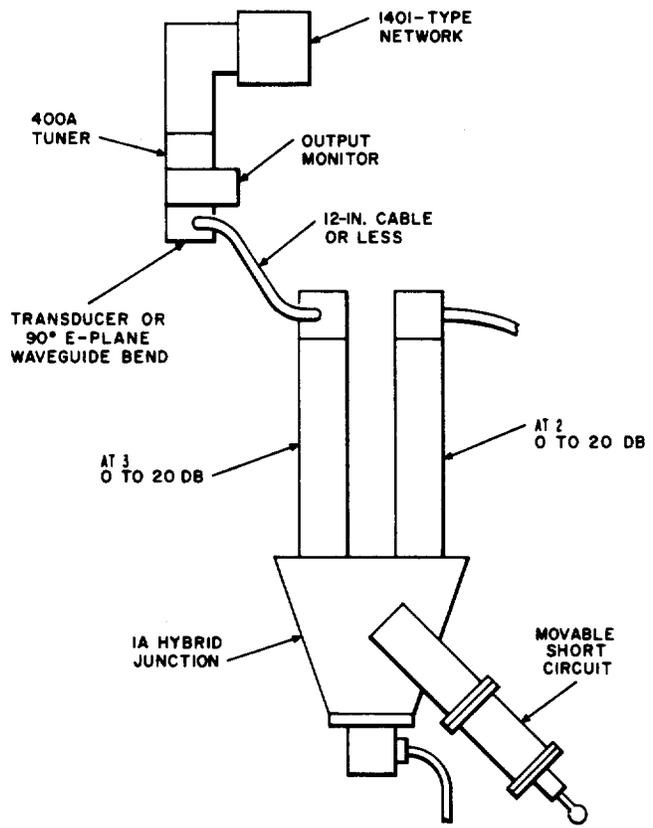

Fig. 3—Test Setup at Transmitter Waveguide
2.04 To measure a transmitting antenna and waveguide system, the transmitter amplifier first must be removed. Attenuator AT3 is then connected to the output monitor directional coupler. This cannot be done directly, so transducers must be used. Figure 3 shows a cable transducer assembly, but a 90-degree E-plane waveguide bend can be used instead. (Use a sling to prevent any damage to the equipment.) The test frequency must be the same as that of the transmitter removed.
2.05 Note that the cable length of the transducer assembly in Fig. 3 should not exceed 12 inches. A cable made up especially for this measurement is helpful.